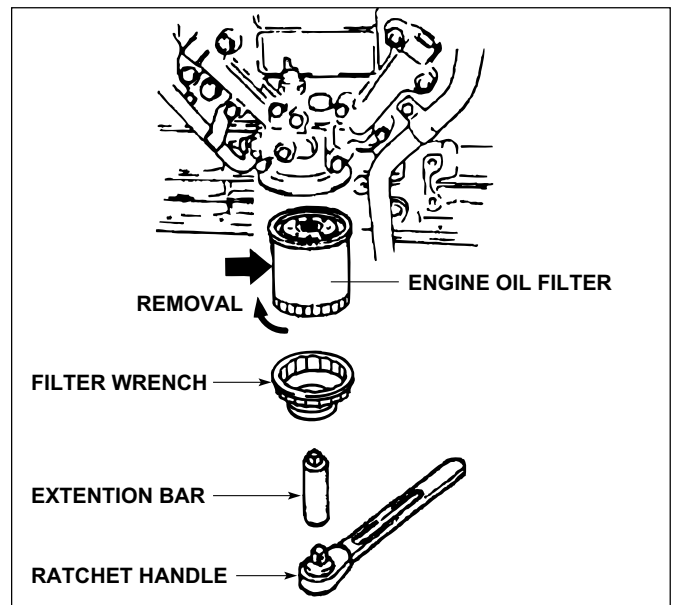

FIGURE 4.24B
5. Remove the oil filter by turning counterclockwise. See Figure 4.24B.